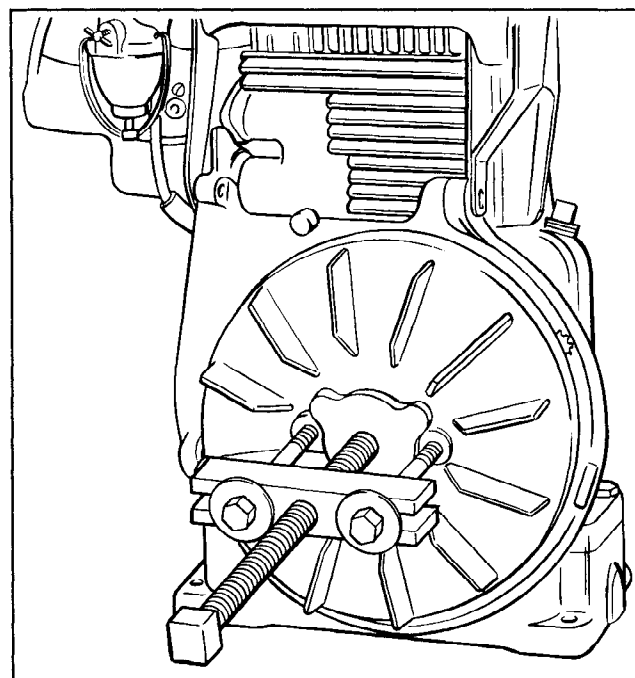

Figure 10-3. Removing Flywheel With A Puller.
1. Flywheel is mounted on tapered portion of crankshaft. Use of a puller is recommended for removing flywheel. Bumping end of crankshaft with hammer to loosen flywheel should be avoided as this can damage crankshaft. Refer to Figure 10-3.